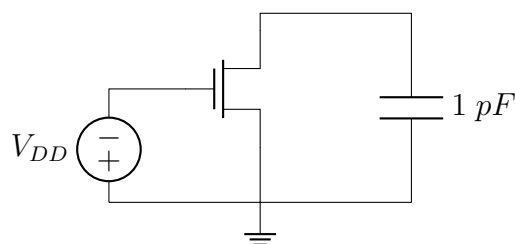

Figure 1
- (a) Perform a transient simulation of the circuit in Figure 1 using $W/L = 240/180$ or $W/L = 400/180$ and $V_{DD} = 1.8\text{ V}$. Set the initial voltage across the capacitor to be 1.8 V . You should submit plots of R_{eq} as a function of V_{DS} for NMOS and PMOS devices (*c. f. Figure 3.27 of course textbook*). *Note: For PMOS devices you need to modify the circuit*